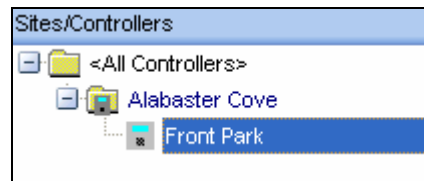

Figure 4.4.5
3. Highlight the controller from the list that you want to delete (Figure 4.4.5).